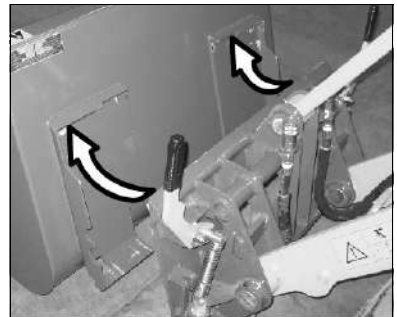

Figure 43 – Standard All-Tach® System Hitch Positioning
1. Position the attachment so the attachment flange fits over the top lip of the hitch (*Fig. 43*).